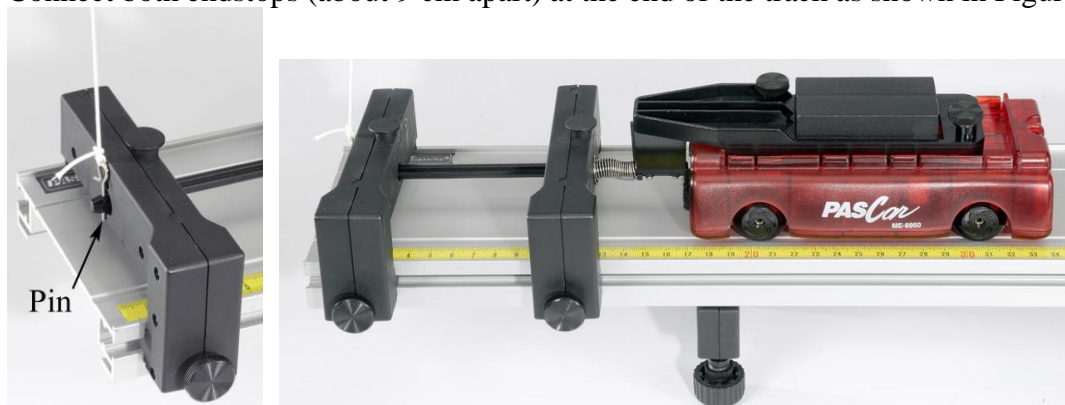

Figure 5: Compressed spring held with pin
15. Connect both endstops (about 9 cm apart) at the end of the track as shown in Figure 5.